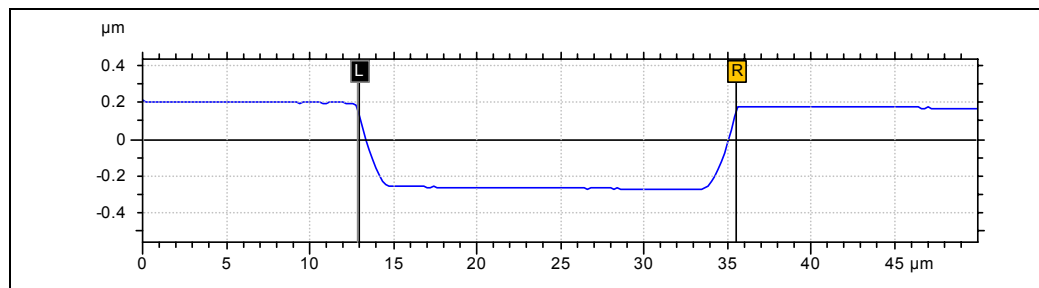

Figure 6.4: Evaluating the width of the calibration trench
1. Measure the groove in normal conditions, including the falling and rising edges (Figure 6.4). Evaluate the width by positioning the cursors. Be sure to level the trace.